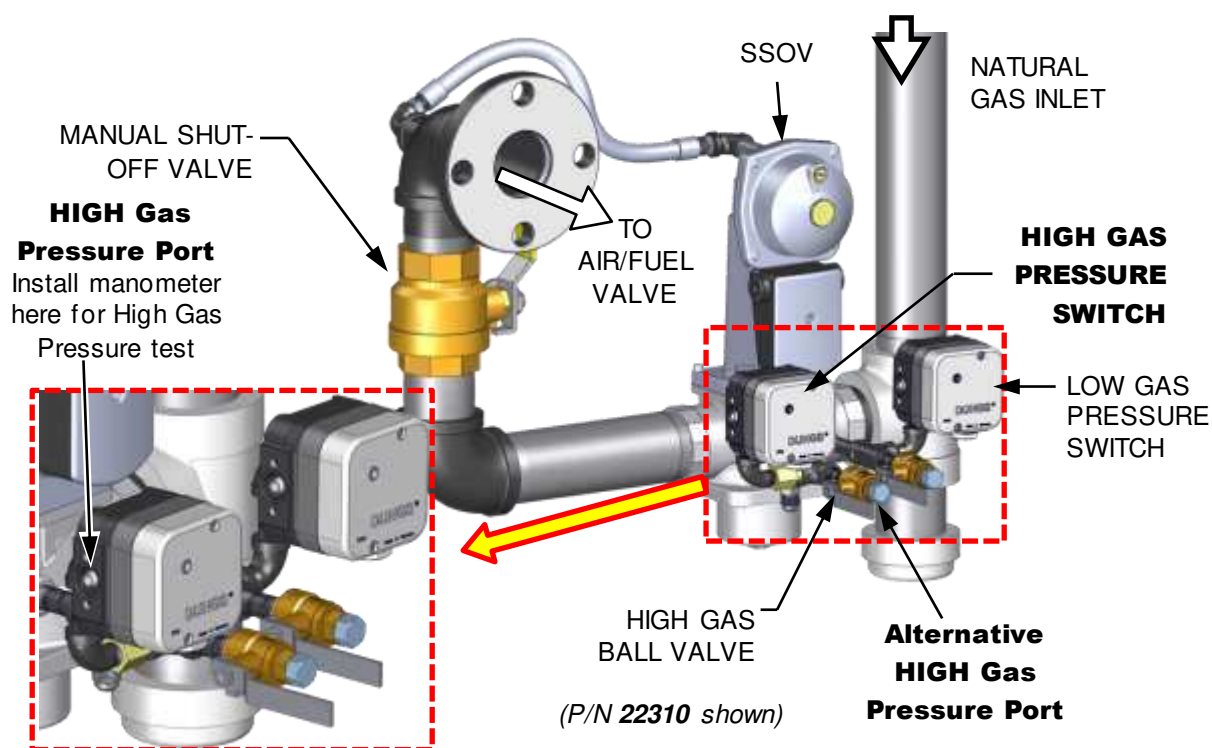

Figure 5-4a: BMK3000 HIGH Gas Pressure Test Components
To simulate a high gas pressure fault, refer to Figure 5-4a and 5-4b and perform the following steps:
2. Locate the port on the side of the **High Gas Pressure** switch and loosen the screw in the port a few turns to open it. **Do not completely remove the screw.** Alternatively, you can remove the 1/4-inch plug shown in Figure 5-4a and 5-4b and install a hose barb fitting in that location.